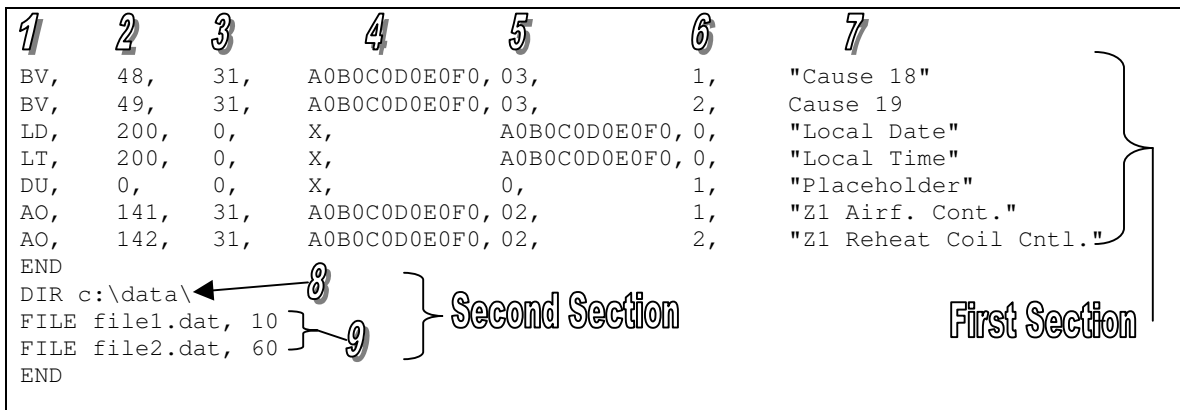

Figure 2 – A sample configuration file
A sample configuration file is shown in Figure 2. In the first section of the configuration file, each line represents one data point that will be read by the BDS.
- 8 The first setting contains the directory in which the data files are to be stored. This setting is optional. If it is not included the default save directory is c:\. This setting is specified by starting the first line in the second section of the configuration file with the keyword DIR, followed by the directory in which the data files are to be saved, e.g., C:\data\. This setting is shown in the sample configuration file in Figure 2. If the directory entered is not usable, the directory will default to c:\.